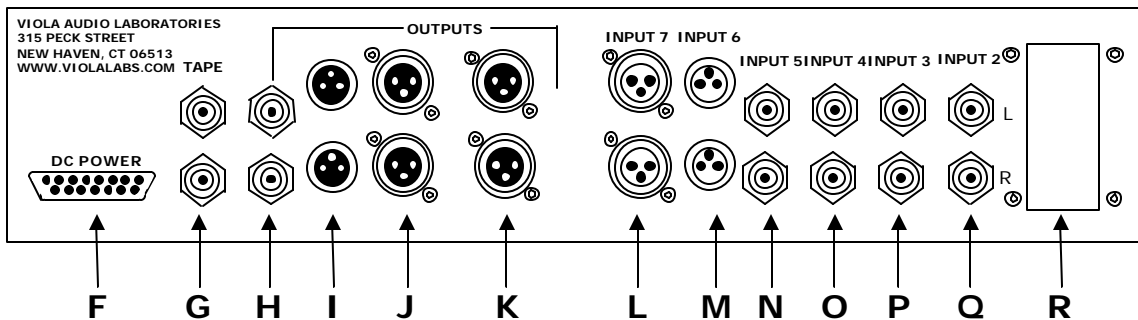

Figure 3. Cadenza rear panel
**Balanced Outputs:** If you wish to connect the Cadenza to your power amplifier using cables fitted with XLR connectors, use either set of XLR outputs shown as J & K on figure 3. Use the connectors in vertical pairs. If you use them in horizontal pairs, you will connect both power amplifiers to the same channel and have a mono system.
If you wish to connect the Cadenza to your power amplifier using cables fitted with Fischer connectors, use the outputs marked I on figure 3.
**Unbalanced Outputs:** If you wish to connect the Cadenza to your power amplifier using cables fitted with RCA connectors, use the outputs marked H on figure 3.